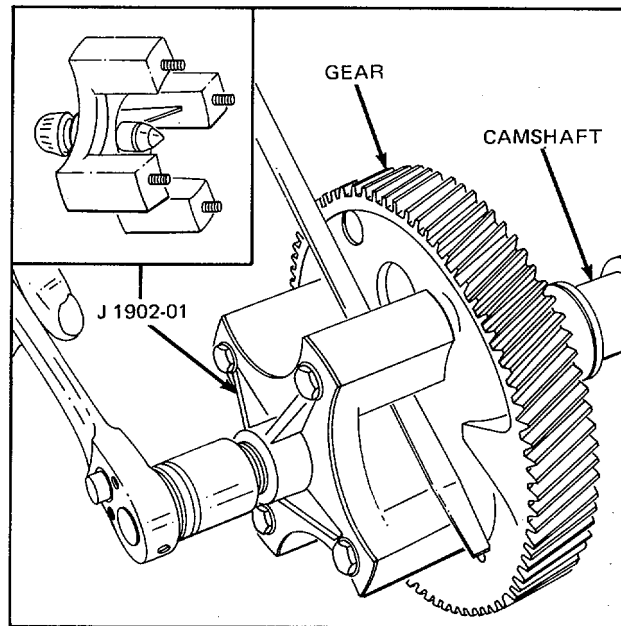

Figure 3.. Removing Camshaft Gear
9. Install camshaft gear puller J 1902-01, four spacers J 6202-2, and camshaft gear puller adaptor plate J 6202-1 on the camshaft gear (Fig. 3).